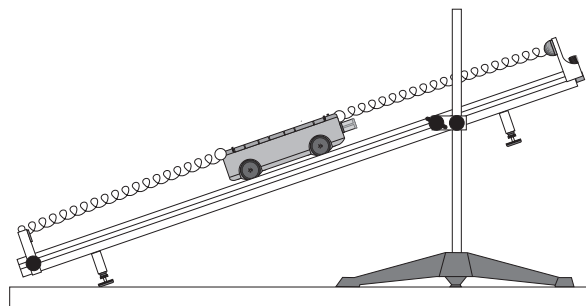

Figure 6.4: Final Spring Arrangement
- Arrange the springs as shown in Figure 6.4 and repeat Step 4.